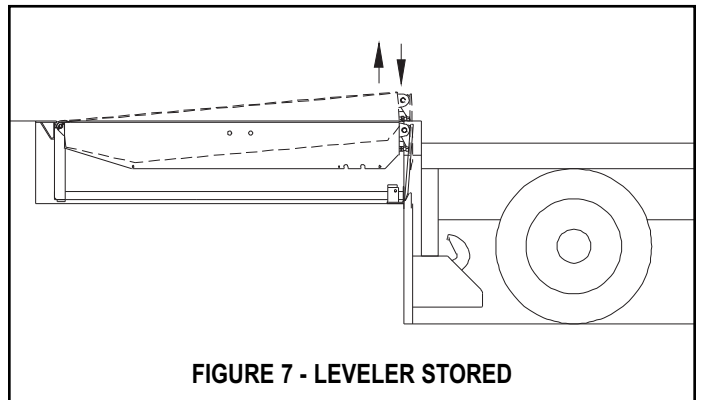

FIGURE 7 - LEVELER STORED
2. Release RAISE button. Leveler will lower to dock level with lip resting in the lip supports. See figure 7.